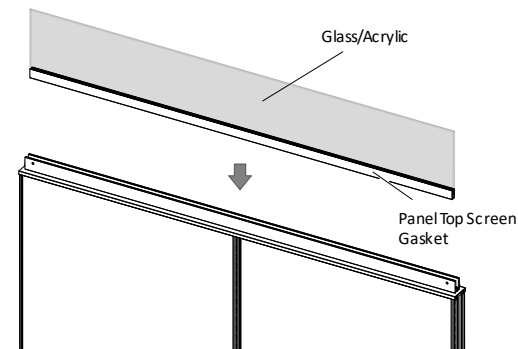

Figure 3
- Insert the glass/acrylic with Panel Top Screen Gasket into the Frameless Glazed Extrusion, (Figure 3).